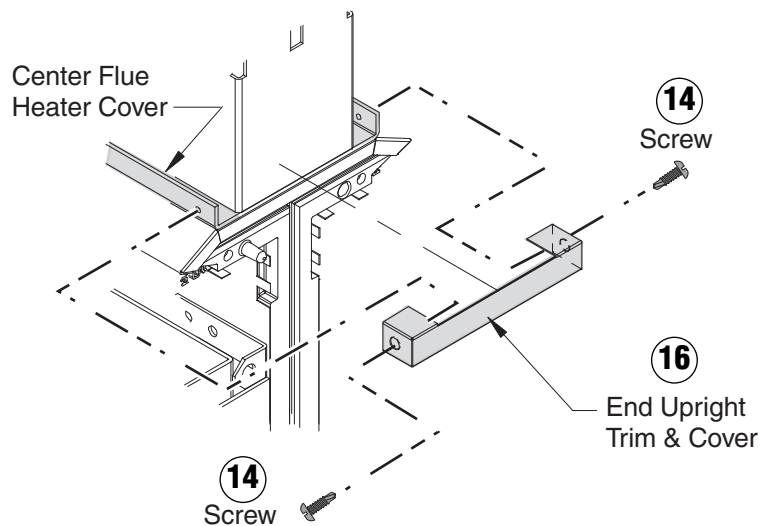

Figure 21 — Install Upright Covers
12. Install *End Upright Cover and Trim* over the ends of the Center Flue Heater Cover at end case or end of lineup as shown in Figure 21. Fasten with $\frac{3}{8}$ -inch #8-18 *Truss Head Sheetmetal Screws*.